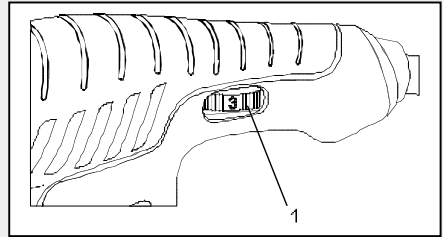

Fig. 4
To run the sander at its slowest speed, turn the speed control switch wheel (1) to #1 (Fig. 4). To run the sander at higher speeds, turn the speed control switch wheel to a higher number on the wheel. The sander will be running at full speed when the wheel is set at "MAX".